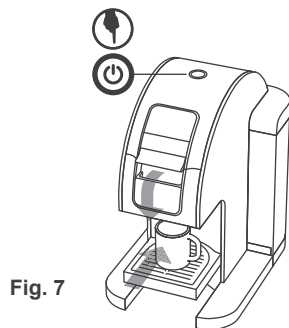
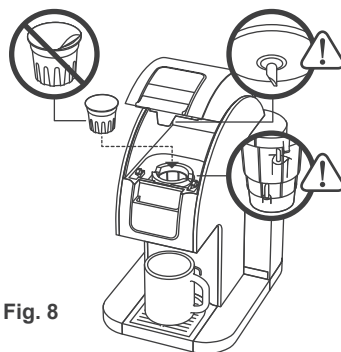

Fig. 7
Fig. 8
2. Pull on the Latch to open the Cover. (Fig. 7) Insert a desired Pod into the Red Cup Holder. (Fig. 8)
NOTE: DO NOT remove the foil lid or puncture the Pod. (Fig. 8) When using a smaller cup, the Drip Tray may be inserted into the Upper Slot to minimize splattering of coffee. (Fig. 7)
CAUTION: There are three sharp Needles that puncture the Pod: a top Needle underneath the Cover and two bottom Needles in the Red Cup Holder. To avoid risk of injury, do not put your fingers in the Red Cup Holder. (Fig. 8)